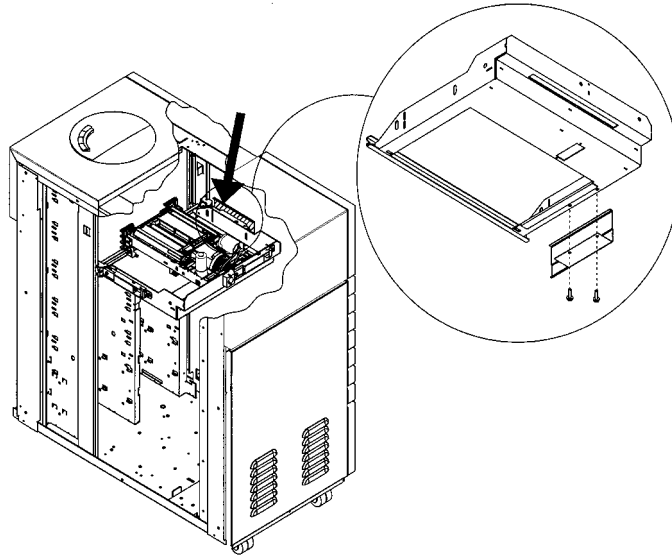

Figure 32: The Visual Locator Bracket
4. Remove the “visual locator” bracket on the (front) side of the picker translate frame (see Figure 32).